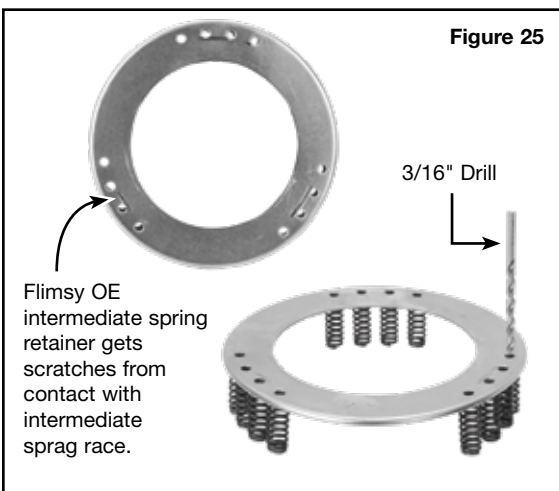

Figure 25
- Use 3/16" drill to remove crimps holding springs to retainer. Ensure not to damage or distort springs (Figure 25).